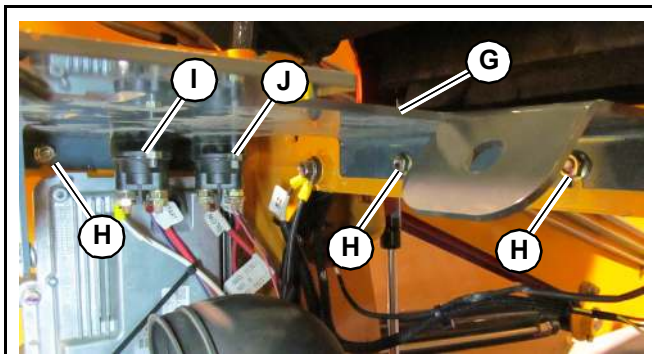

Fig. 331 – Connect Wiring to Solenoids
17. Install air cleaner bracket (G, Fig. 331) and secure using three locknuts (H).